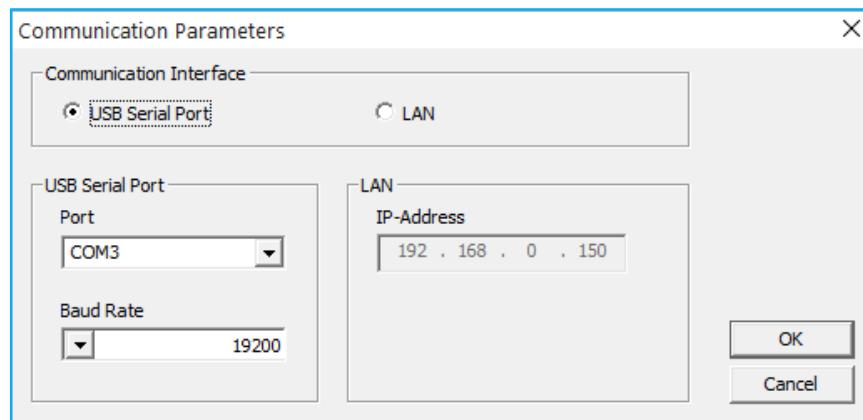
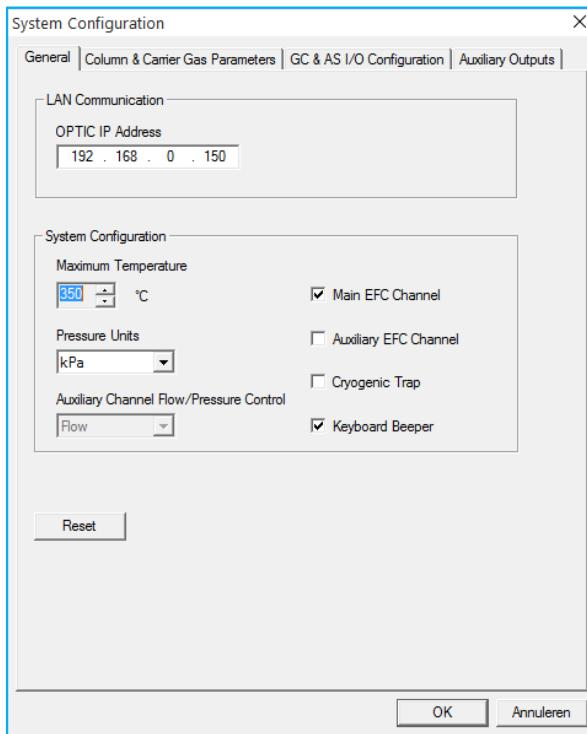

Figure 5.3
Figure 5.6
6. Normally, Evolution Workstation automatically detects the USB serial port number and connects to OPTIC. If due to some reason this does not happen, open the Evolution Workstation software to set the external communication configuration. Select **Configuration/ External Communication** in the main menu bar and click on the radio button next to 'USB Serial Port' (Fig. 5.3). Select a port number below and click on 'OK' button. The Evolution Workstation should now connect to OPTIC-4 controller.
5. Select **Configuration/ External Communication** in the Evolution Workstation main menu bar and click on the radio button next to 'LAN' (Fig. 5.3). Click on 'OK' button. The Evolution Workstation should now connect to OPTIC-4 controller.
Select **Configuration/ System Configuration** to set the system configuration parameters. Fig. 5.6 shows **General** tab of the system configuration dialog. Parameters IP Address, Maximum Inlet Temperature, etc. can be set via this dialog.
Select **Configuration/ External Communication** to choose the communication interface to OPTIC-4 (Fig. 5.3). Either USB or LAN interface can be chosen. The IP address for the LAN communication is grayed-out. It should be set via the system configuration dialog (Fig. 5.6).